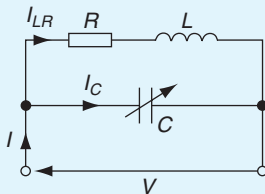

Figure 16.11
6. A parallel circuit as shown in Fig. 16.11 is tuned to resonance by varying capacitance C . Resistance, $R = 30\ \Omega$, inductance, $L = 400\ \mu\text{H}$, and the supply voltage, $V = 200\ \text{V}$, $5\ \text{MHz}$.